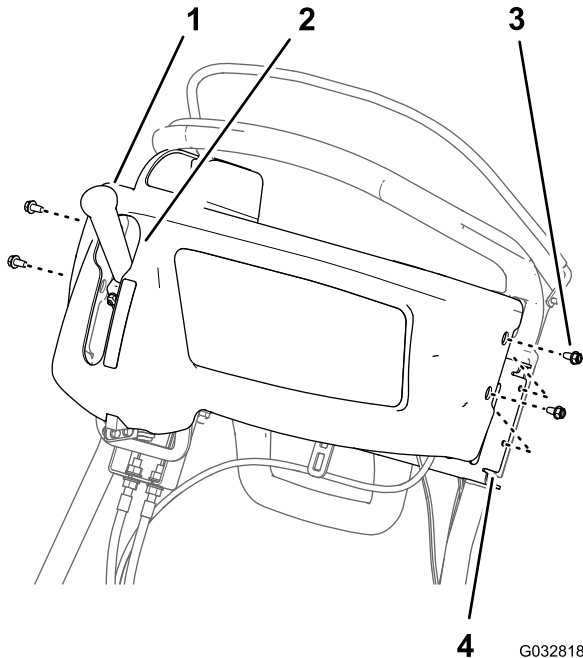

Figure 15
1. Align the keyhole slot in the control-panel cover over the traction and reel drive handle (Figure 15).
2. Align the holes in the control-panel cover to the holes in the support bracket of the handle bar (Figure 15).
3. Assemble the cover to the bracket (Figure 15) with the 4 flange-head screw (1/4 x 1/2 inch) that you removed in step 1 of (page).